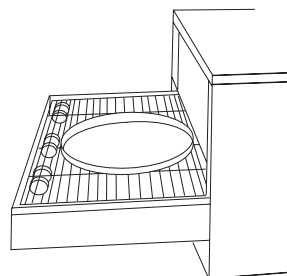

Fig. 3-2
- With the conveyor running, place a product at the entrance end of the conveyor, as shown in Figure 3-2. Begin timing with a stopwatch.